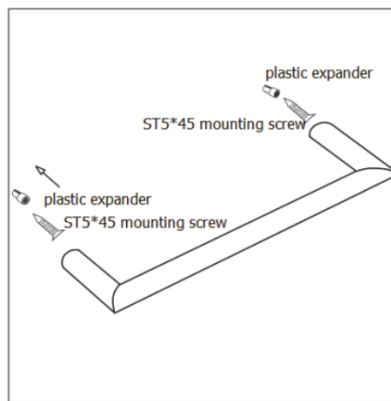

Fig. 3
Step 7: Slide the ends of the rails over the fix bases and tighten the M5*6 mounting screws on the underside with Allen key. (Fig 3)